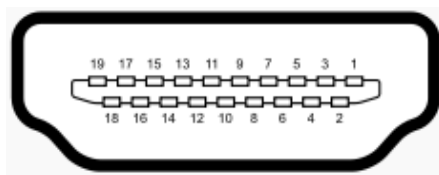

Figure 3-30: HDMI Connector
- CN Pinouts:** See **Figure 3-30** and **Table 3-25**